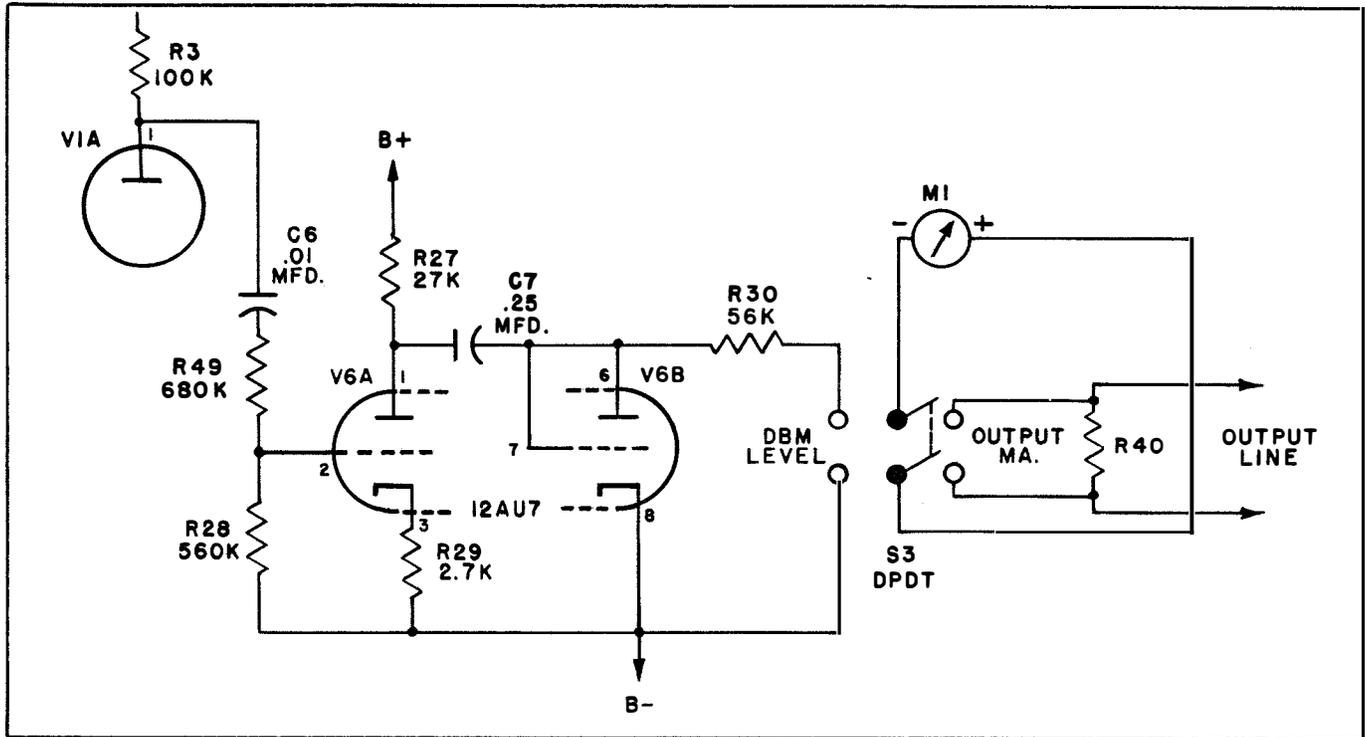

Figure 2-8. Meter Circuits
d. METER CIRCUITS - The meter used on the Receiver measures both output line current and the tone level in the audio amplifier. The schematic of the meter circuits is illustrated in Figure 2-8. The 3-1/2 inch meter M1 has a basic 500-0-500 microampere movement but is calibrated for 100-0-100 milliamperes and -15 DBM to +6 DBM. A DPDT toggle switch S3 connects the meter across the meter shunt resistor R40 in the output line to measure line current or to the output of rectifier V6A to measure signal level of the audio amplifier. Signal is taken from the plate of V1A in the audio amplifier through capacitor C6. Amplifier tube V6A is one half section of a 12AU7 tube used to step the audio signal level up further and to drive shunt rectifier tube V6B. Output from V6A is coupled to V6B by capacitor C7. Resistor R30 is connected in series with V6B and the meter to provide the correct DBM reading on the meter in relation to the audio level essential for proper operation of the amplifier-rectifier circuits.